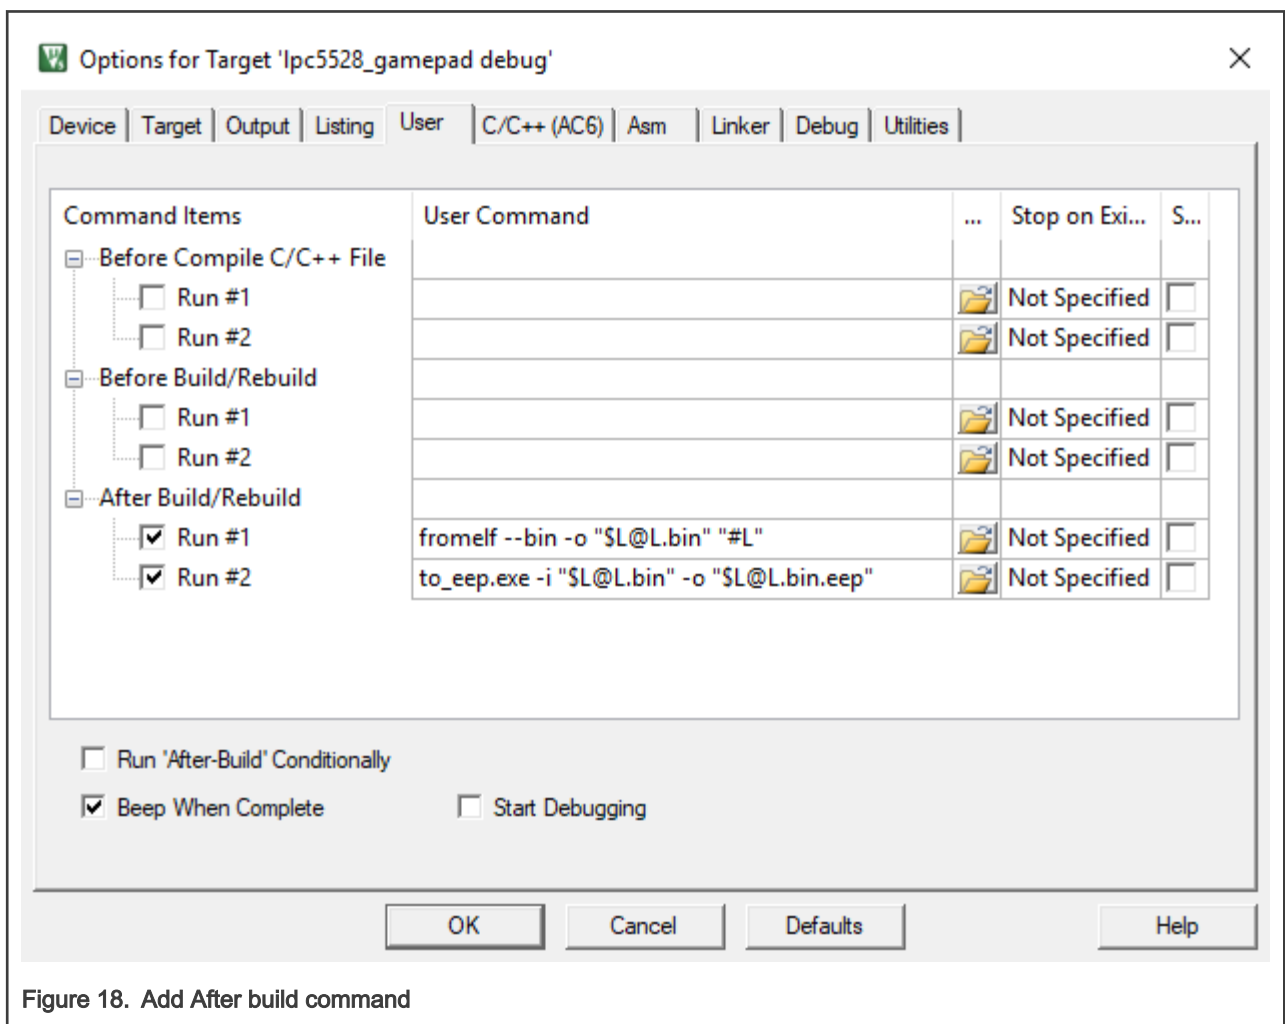

Figure 18. Add After build command
3. Switch to the user window and add two commands to the **After build/Rebuild** column, as shown in Figure 18. These two commands will be executed automatically every time the project is compiled.